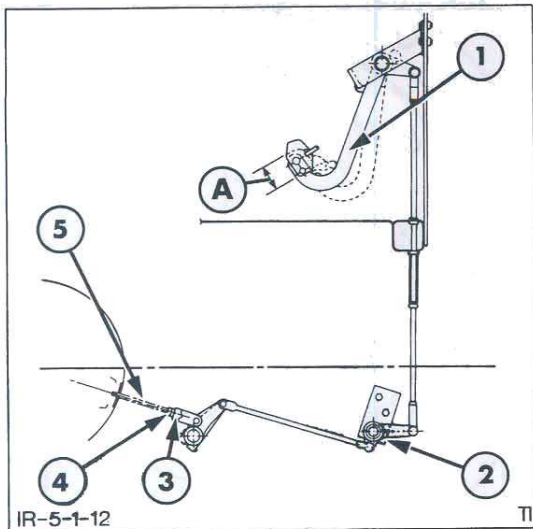

Figure 12
- Brake actuating disc assembly with the control rod passing through the brake control rod seal assembly, Figure 12. Position the notch over the torque pin. If the brake control rod seal assembly has been removed, install a new seal by tapping it into the rear axle housing and locking the seal in the annular groove on the brake control rod. Secure a new control rod fastener.
- Reconnect the brake linkage and adjust the linkage to provide the specified free pedal travel, Figure 12. See 'Specifications' – Chapter 3.